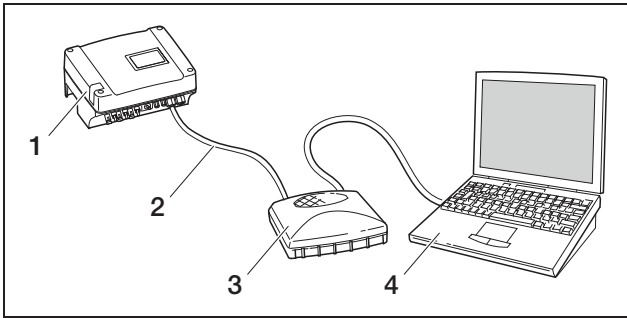

Fig. 24: Connecting inverter and computer with Ethernet cables and switch
- a) via a local network (switch and Ethernet cable, see figure 24), or